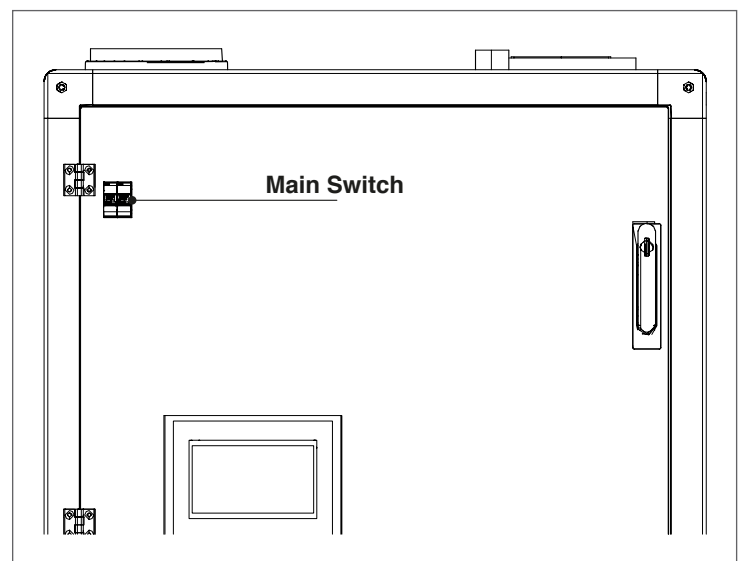

Fig. 20 Main switch
**WARNING:** The main switch shown in Fig. 20 does not remove power from the left door terminal blocks.